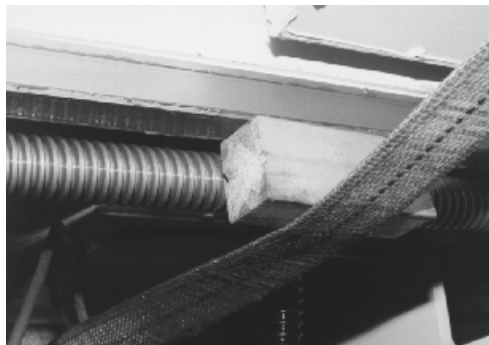

Figure 4
Lifting straps may also be used to lift the machine by placing the straps around the front and rear of the table. When straps are used in this way, wood blocks must be placed beside the lead screw to prevent damage, (Figure 4). A bent lead screw will cause the backgauge to bind. The lead screw cover must also be removed. Do not strap around the lead screw cover.
3. Lift the table out of the accessory box. *NOTE:* Be careful not to damage or bend the lead screw or backgauge drive motor assembly. Use wood blocks beside the screw if straps are used (Figure 4 on page 13).
6. After locating the table, install the eight (8) table bolts. Seat the taper pins and tighten the bolts.